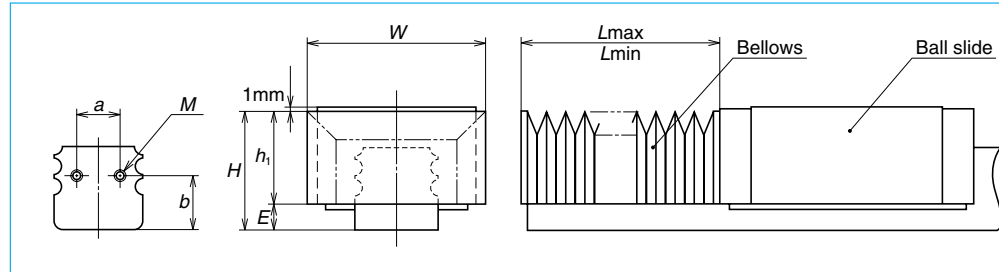
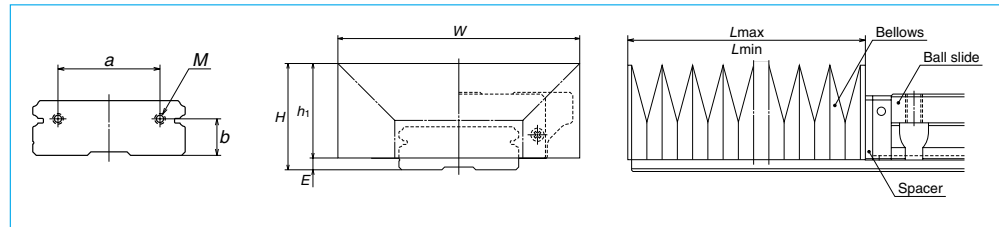

Fig. II-5-11
Fig. II-5-12
③ LA and LW Series
* Installation to the ball slide (Fig. II-5-11 and Fig. II-5-12)